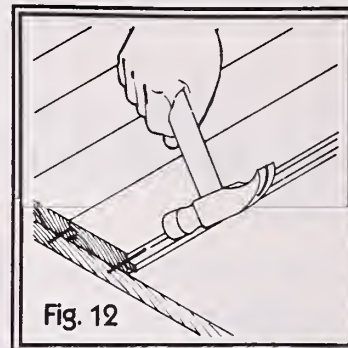

Fig. 12
3. Lay the board in the opening. Blind-nail it in place by driving the nails diagonally just above the tongue of the board (fig. 12). Complete the nailing with the nail set. Space the nails the same distance they were spaced in the existing flooring.
11. Now place the new tread in position (fig. 12). Face-nail the tread to the riser below and to the stringers. If trim was removed, replace it at this point with 4d or 5d finishing nails.